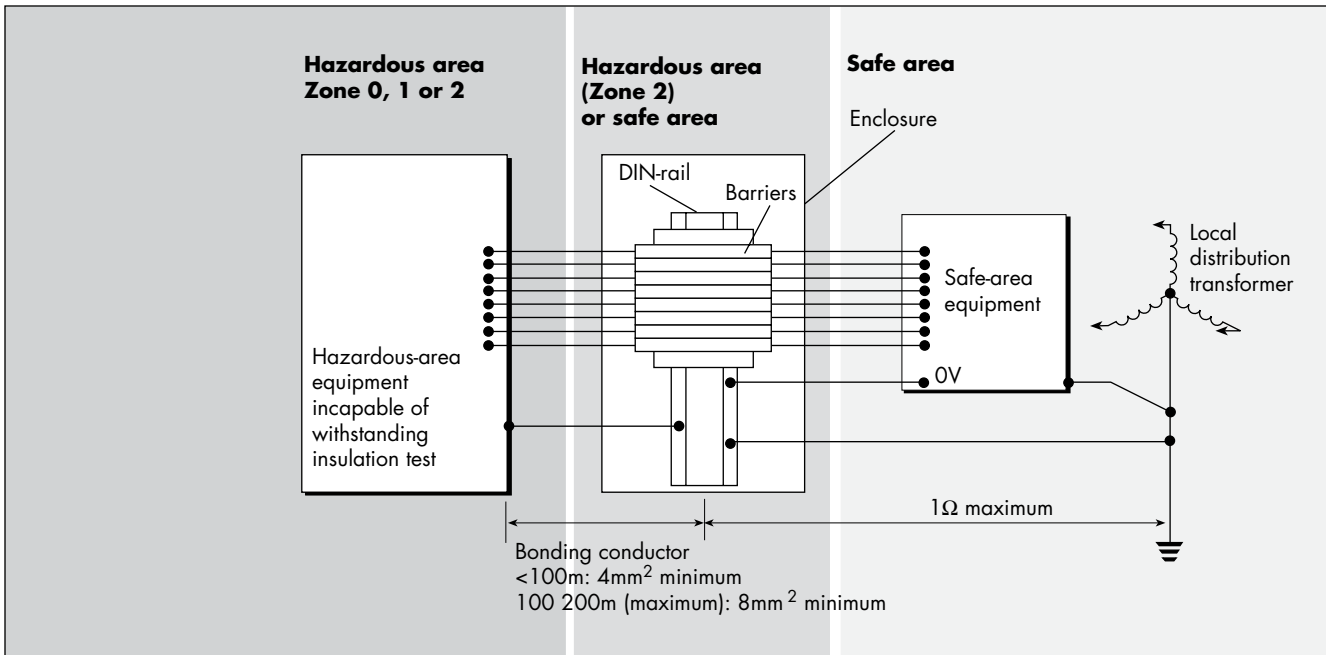

Figure 18: Bonding practice where hazardous-area equipment cannot meet required standards of insulation from earth
- Figure 18 shows the OV rail of the safe-area equipment returned to the barrier DIN-rail by a separate insulated conductor and the structural earths of any safe-area equipment returned separately to the neutral star-point. This reduces interference problems but is not essential for safety reasons.